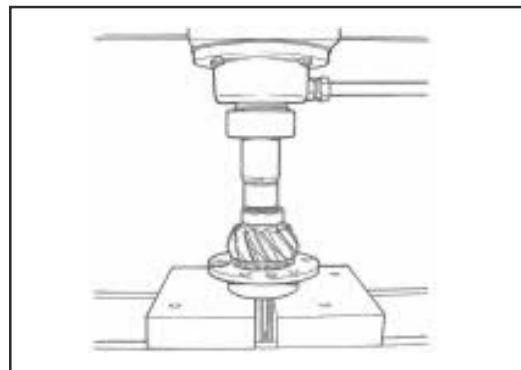

Fig. 12
3. Press the taper roller bearing on to the pinion (SER / 059 / 056). (Fig. 12).